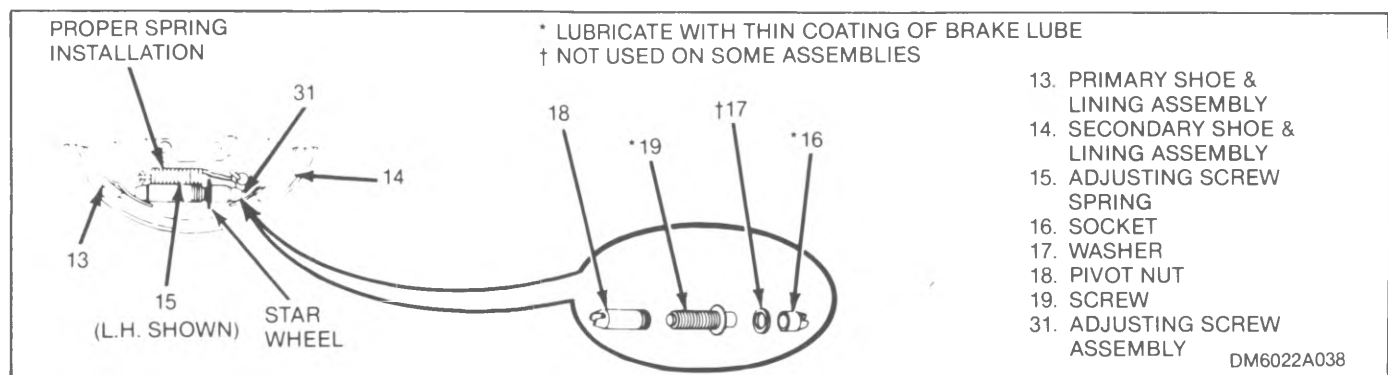

Figure 3-19. Adjusting Screw and Spring
16. Disassemble the adjusting screw assembly (see figure 3-19) and clean parts in clean denatured alcohol. Make sure that the adjusting screw threads into the pivot nut over its complete length without sticking or binding. Check that none of the adjusting screw teeth are damaged.
17. Apply brake lube to adjusting screw (19) threads, inside diameter of socket (16) and socket face. Adequate lubrication is achieved when a continuous bead of lubricant is produced at open end of pivot nut (18) and socket after parts are assembled and threads fully engaged. Install washer (17) if found on unit at disassembly.
19. Install parking brake lever (20) by hooking lever tab into slot in secondary shoe (14).
20. Install adjusting screw assembly (31) and spring (15) between shoes (13 and 14) as shown in figure 3-19. Coils of spring must not be over star wheel. Left and right hand springs are different. Do not interchange.